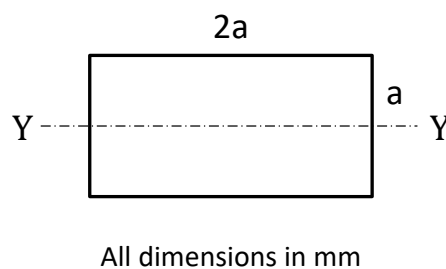

Fig. Q4
4. A beam with a rectangular cross section, that is subjected to a pure bending moment about the $Y - Y$ axis, as shown in Figure Q4, is required to have a corresponding 2^{nd} moment of area of at least $2.2 \times 10^7 \text{ mm}^4$. What is the minimum required value of a ?